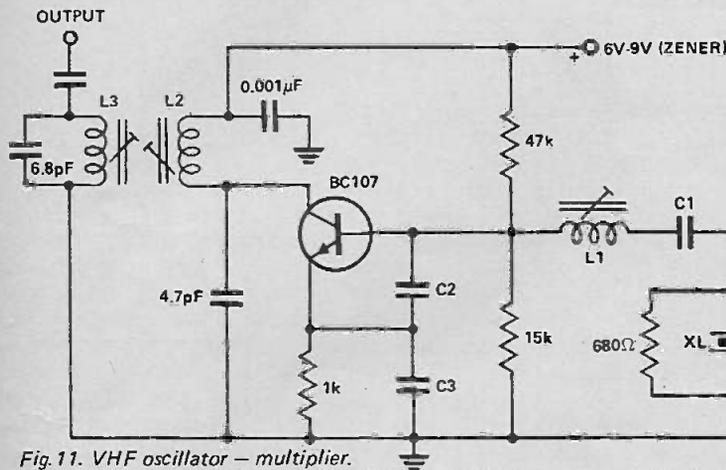

Fig. 11. VHF oscillator - multiplier.
The circuit in Fig. 11 is a modification of the 'Impedance Inverting' overtone oscillator discussed by Rankin (4), who also describes a similar circuit. Normally, with the impedance inverting circuit, the collector is either untuned or grounded for RF. The collector can be tuned to twice or three times the crystal frequency. To reduce the output at the crystal frequency, a double tuned circuit is recommended. DO NOT tune the collector to the crystal frequency, otherwise the circuit will oscillate at a frequency not controlled by the crystal. It is advisable to keep the collector lead as short and direct as possible.